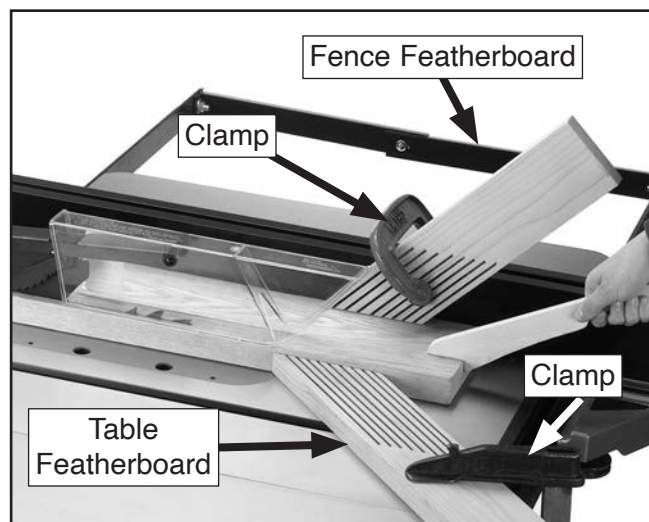

Figure 72. Example of featherboards secured with clamps.
3. Place a featherboard on table away from blade so all fingers point forward and contact workpiece (see **Figure 72**).